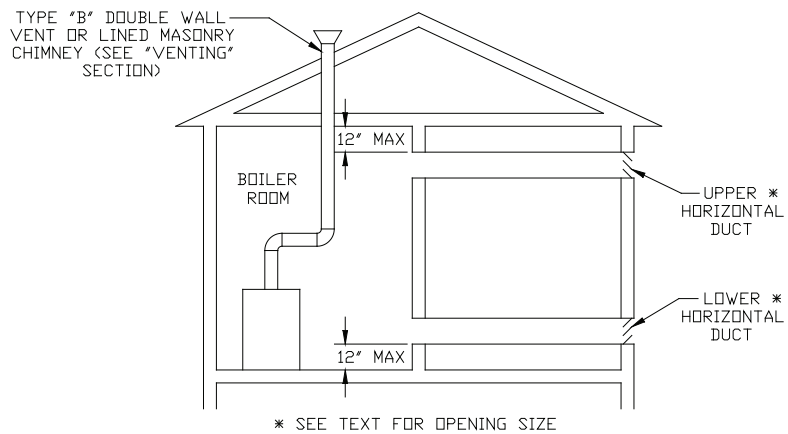

FIGURE 7: ALL AIR FROM OUTDOORS, USING
- Openings to outdoors via horizontal ducts (Figure 7) - Each opening must have a free cross sectional area of 1 square inch per 2000 BTU/hr of the total input of all gas fired appliances in the boiler room but not less than 100 square inches. Minimum opening size is 3 inches.